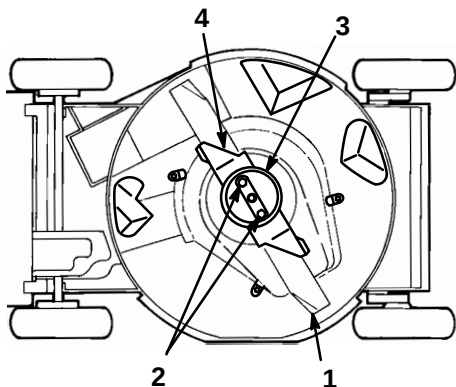

Figure 26
2. Remove the blade nuts, anti-scalp cup, blade accelerator and blade (Fig. 26).
1. Install the blade, blade accelerator, anti-scalp cup and blade nuts (Fig. 26).
4. Remove (2) blade nuts, anti-scalp cup, accelerator, and blade (Fig. 26).